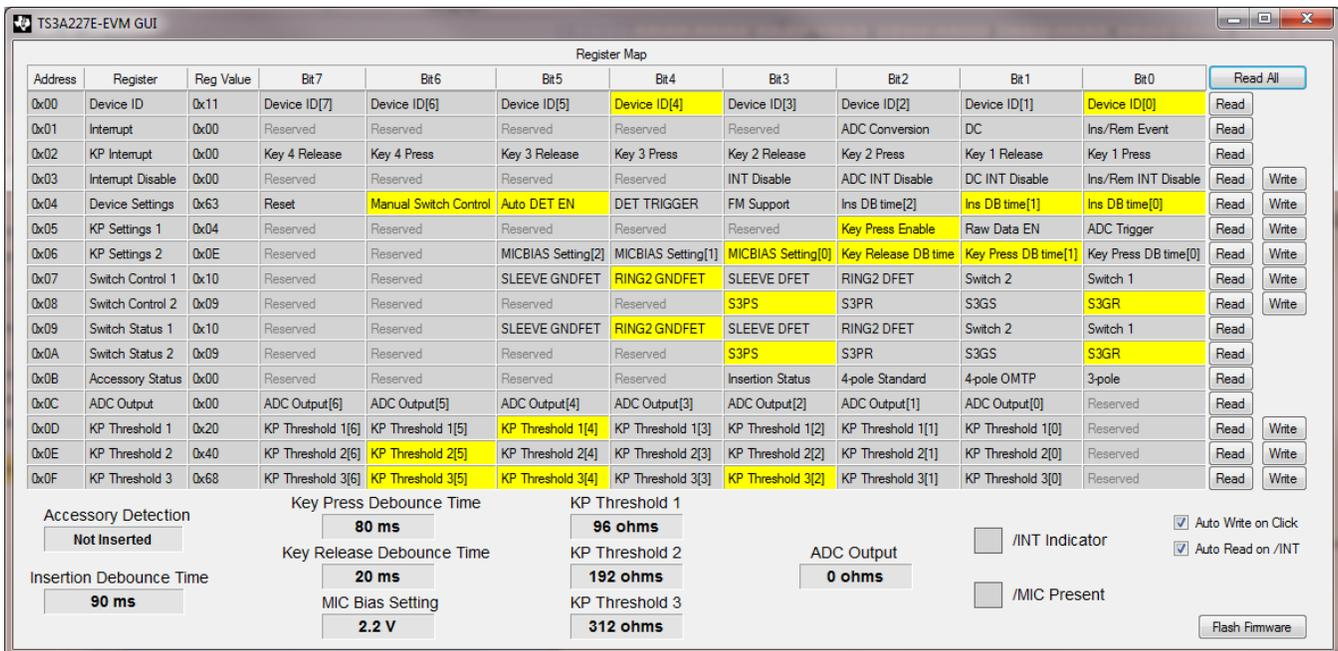

Figure 20. EVM GUI Settings When Using On-Board Keys
4. The GUI should now appear as shown in Figure 20.